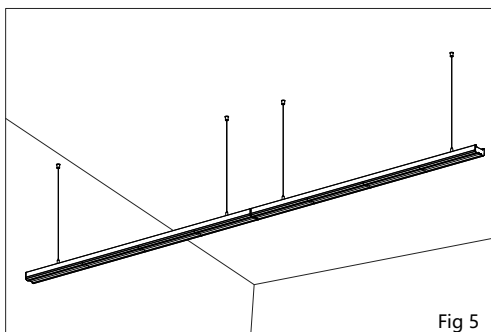

Fig 5
3. Sequentially according to step 1, step 2 to install and connect the rest of the lights, to ensure that the installation is firmly installed after power on the light, the installation is complete (Fig 5)